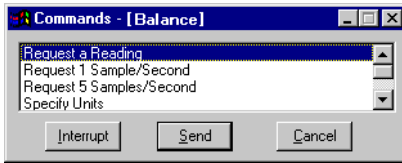

Figure 4.6: Commands dialog box
2. The commands that you entered for this instrument (see Figure 3.5, Page 24) will appear in the [Commands] dialog box, similar to the example shown in Figure 4.6 (see Page 37).
Note there is also an ‘*Interrupt*’ button located along the bottom of [Commands] dialog box (see Figure 4.6) that you can click to stop **SWD-Collect** from sending commands to the instrument. For example, if you have set up a command to prompt the instrument to send data every 5000 milliseconds, you could use the ‘*Interrupt*’ button to stop this command. If data collection is occurring at a fast rate (multiple
SWD-Collect will automatically open the [Commands] dialog box (see Figure 4.6, Page 37) for this instrument every time you open the instrument.